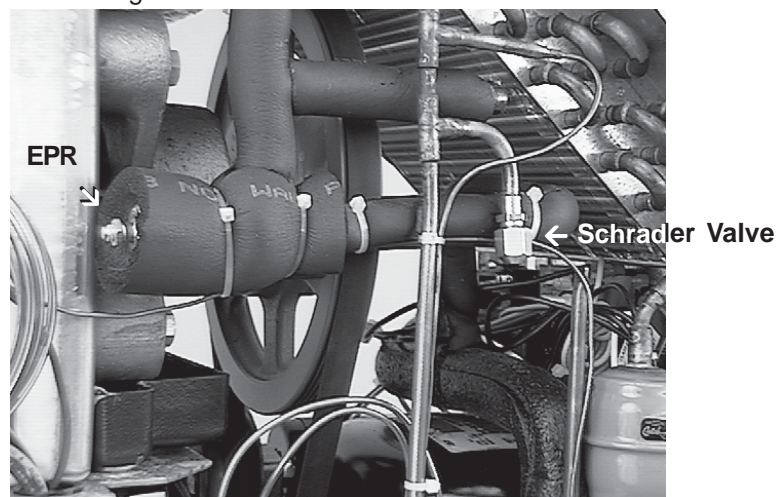

Figure 22. EPR and Schrader Valve
2. Remove the cap from the E.P.R. schrader valve. Figure 22.